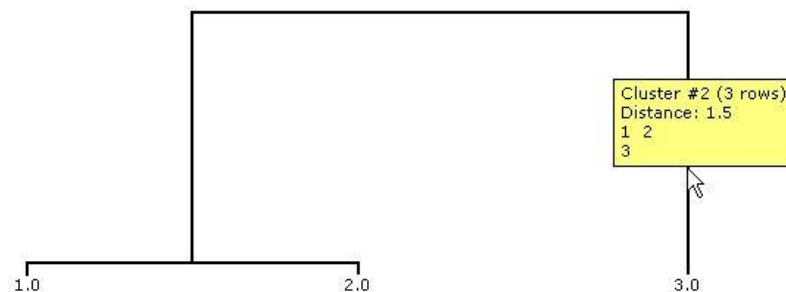

Figure 8.5: Viewing an average linkage
Average linkage: The average distance between all pairs of objects in the two different clusters is used as the measure of distance between the two clusters (Figure 8.5). This method is effective when the objects form natural distinct “clumps,” as well as when the data form elongated “chain” type clusters. This method is commonly referred to as “UPGMA”, or “un-weighted pair-group method using arithmetic averages” (Sneath & Sokal, 1973). Figure 8.5 shows average linkage on 1, 2, and 3. First, 1 and 2 are combined with a distance of 1. Next, the clusters (1, 2) and (3) are combined with a distance of 1.5 (the distance from 3 to 2 plus the distance from 3 to 1, divided by 2).